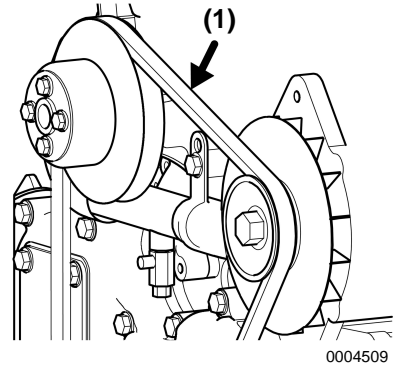

Figure 4
2. Check the belt by pushing on the middle of the belt (**Figure 4, (1)**) with your finger.